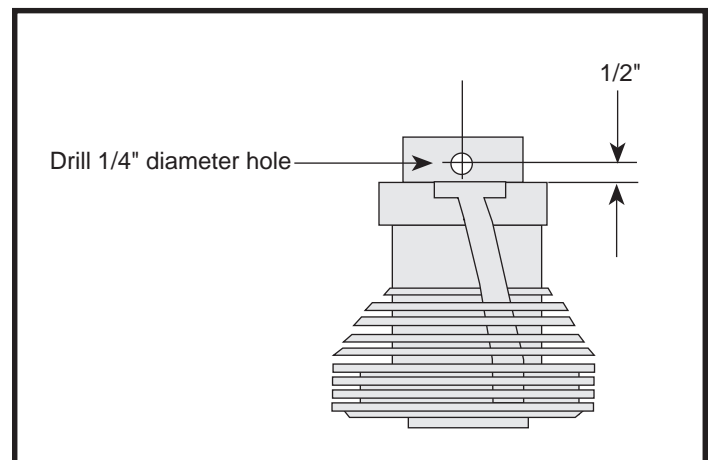

Figure 1
- A. Directly in line with return hole in bottom of cylinder flange, drill 1/4" diameter hole centered 1/2" away from base gasket surface through cylinder sleeve. **See Figure 1.**